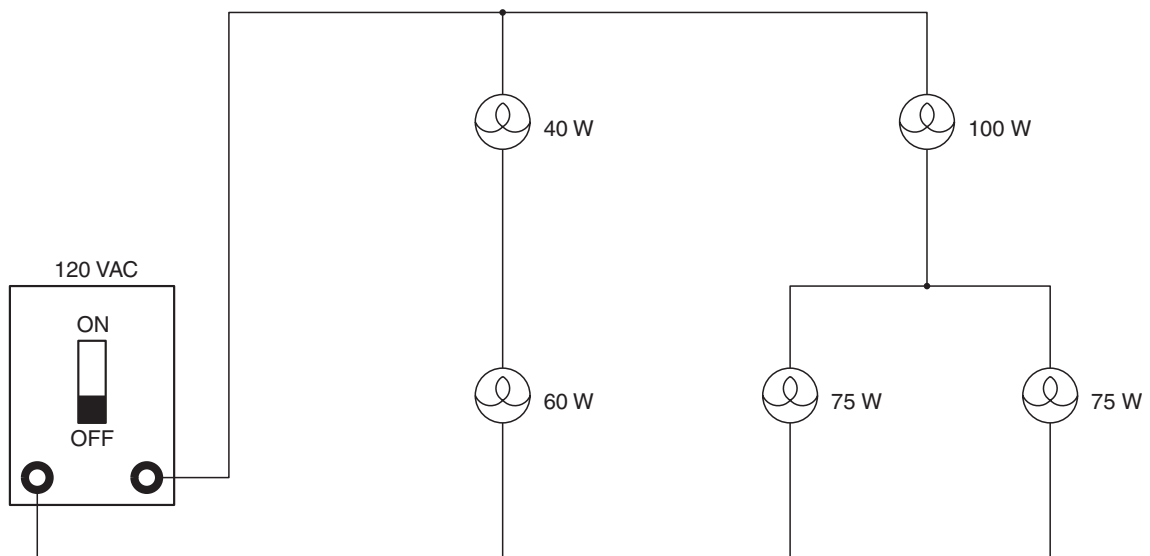

Figure 5-18 Parallel-series combination circuit.
17. Connect the circuit shown in Figure 5-18. Make sure the power supply remains turned off until you are told to turn it on.